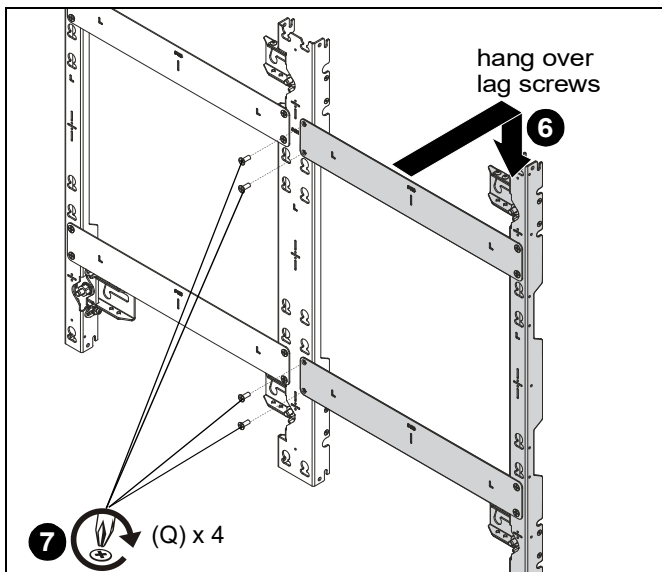

Figure 16
6. Hang upright (M or N) with spacer (P) onto lag screw (C). (See Figure 16)
7. Use four 10-24 x 1/2" flathead Phillips screws (Q) to secure two spacer plates (P) to mounting uprights (M). (See Figure 16)